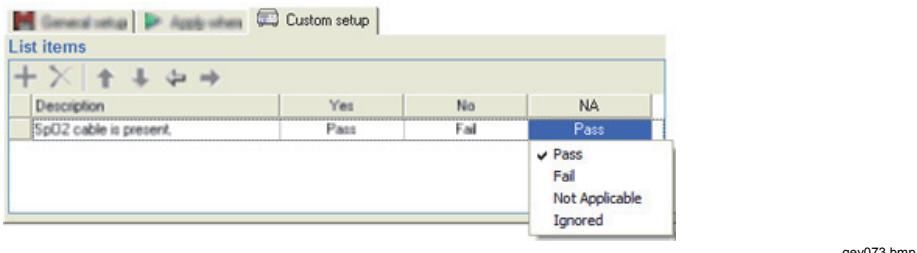

Figure 3-33. Checklist Option Status Menu
7. To set the status of an option, click on the cell below the option name you want to change. In Figure 3-33, the status for the **NA** option is being changed to Not Applicable.